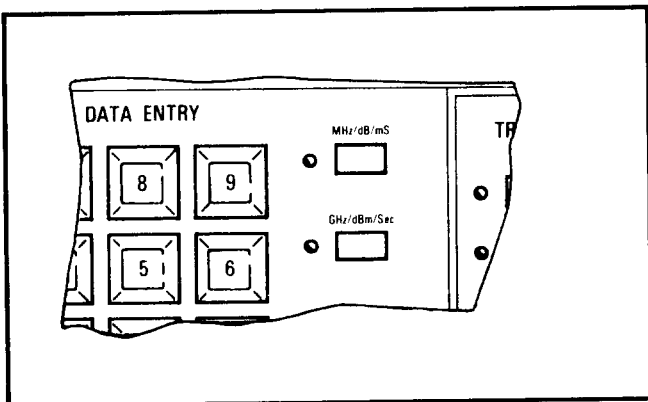

Figure 3-7. MHz/dB/mS and GHz/dBm/Sec (Terminator) Pushbuttons
d. MHz/dB/mS and GHz/dBm/Sec Pushbuttons (Figure 3-7). These two pushbuttons are data string terminators. That is, they mark the end of a parameter-input entry, and they assign the appropriate units (GHz, dBm, mS, etc.) to the entry. However, whereas
2. The CLEAR ENTRY indicator flashes when an illegal or incomplete data entry has been attempted. (In addition, an illegal entry causes the LED readout displaying the illegal entry to flash; an incomplete entry causes both data terminator pushbutton indicators (Figure 3-7) to flash.)
An incomplete entry is one in which a parameter value is entered on the keypad and the entry is not terminated with a terminator pushbutton (Figure 3-7). When this occurs, the error can be corrected by pressing the appropriate terminator pushbutton or by pressing the CLEAR ENTRY pushbutton and re-entering the data.